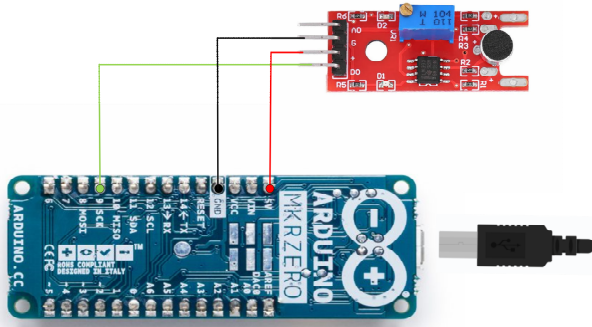

Fig. 4.1. Schematic for sound sensor with Arduino MKR ZERO.
The schematic is given in Fig. 4.1. Step-by-step instructions for building a system for this example are as follows.
- (1) Connect the microcontroller to the PC via USB cable.
- (2) Connect the sound sensor module as shown in the schematic in Fig. 4.1.
- (3) Open Arduino IDE. In Tools>Board choose Arduino MKR ZERO (programming port).
- (4) Copy the code listed below and upload it to the microcontroller.